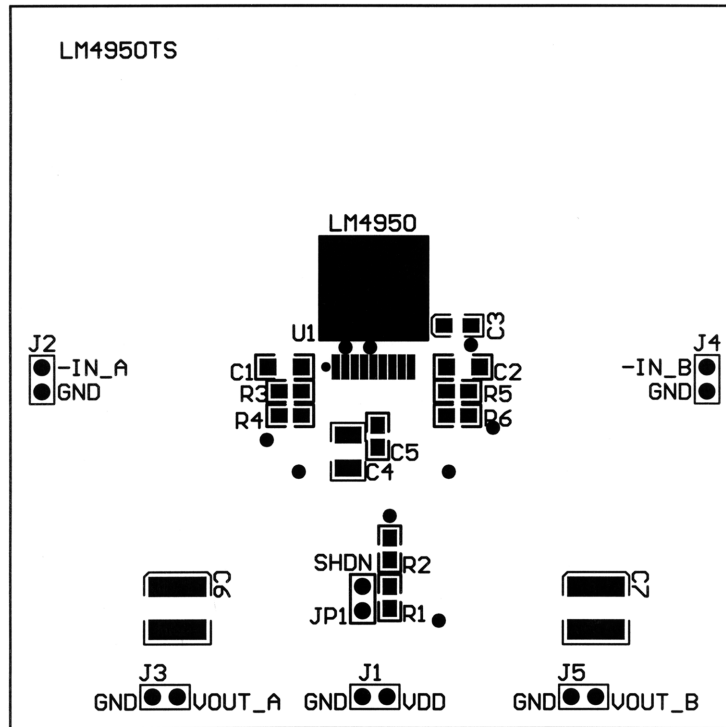
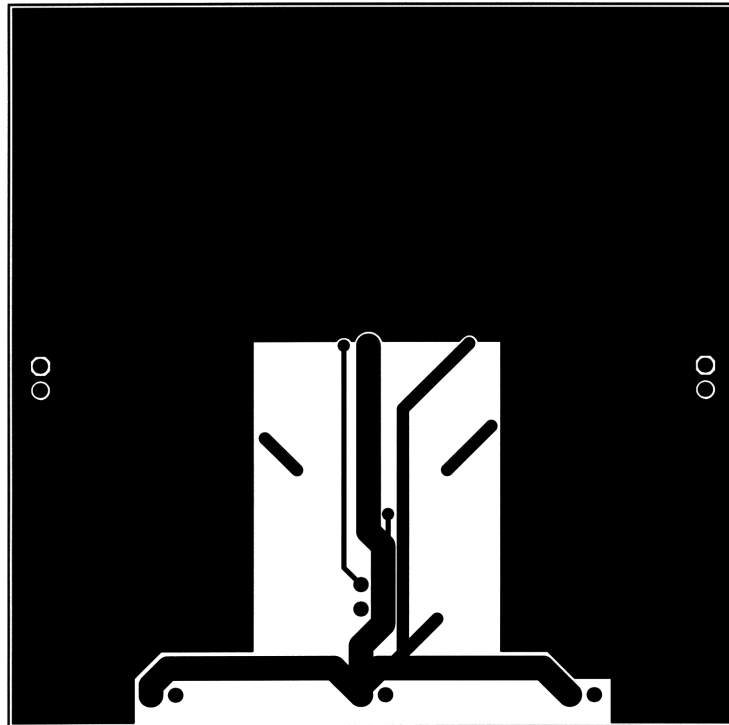

Figure 67. Recommended KTW SE PCB Layout: Top Silkscreen
Figure 69. Recommended KTW SE PCB Layout:
Figure 67 through Figure 69 show the recommended two-layer PC board layout that is optimized for the DDPACK-packaged, SE-configured LM4950 and associated external components. Figure 70 through Figure 72 show the recommended two-layer PC board layout that is optimized for the DDPACK-packaged, BTL-configured LM4950 and associated external components. These circuits are designed for use with an external 12V supply and 4Ω(min)(SE) or 8Ω(min)(BTL) speakers.